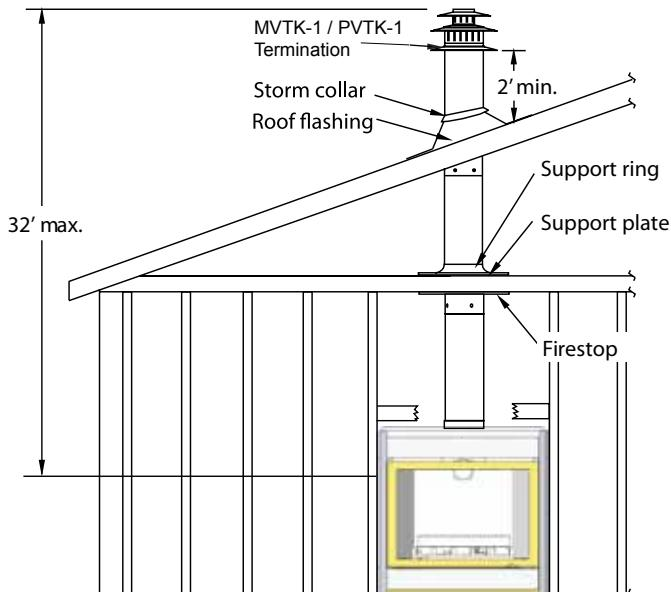

Figure 11. Top vent, Roof mounted termination with no offset in vent run.
- The Vertical termination must be a minimum 2' higher than where the termination exits the roofing materials, (asphalt shingles, cedar shingles, etc). This distance should be measured from the high side of the roof slope where the flue flashing intersects the roofing materials. (see **Figures 11 to 11c ***).